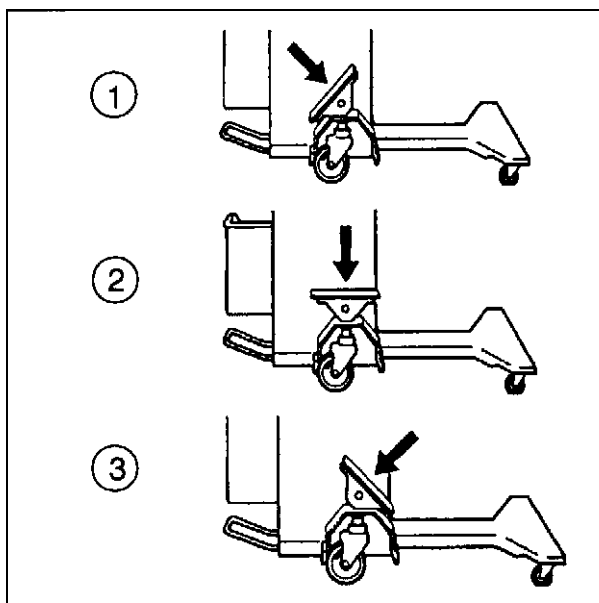

Fig. 1: Checking the pedal positions
- Pedal positions are as shown in (1//Fig. 1 / p. 26)
- Pedal positions as shown in (2//Fig. 1 / p. 26)
- Pedal positions as shown in (3//Fig. 1 / p. 26)